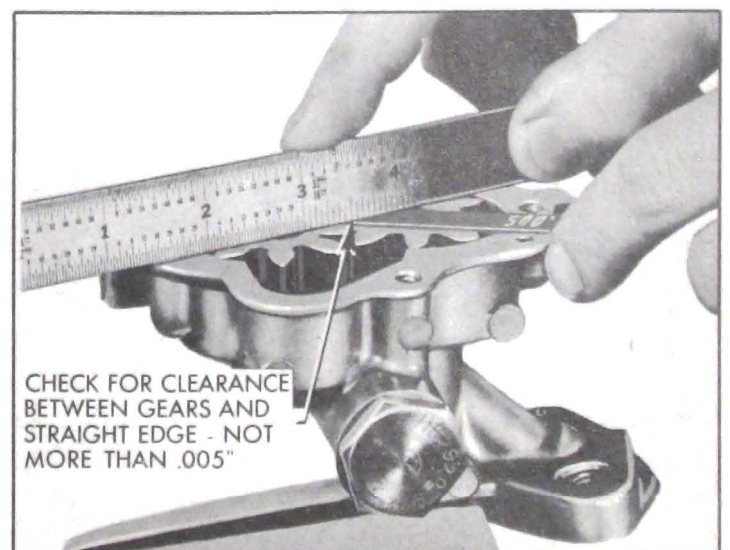

Figure 2-40—Checking Clearance of Gears at Cover
8. Check for clearance between gears and cover by using a steel straight edge as shown in Figure 2-40.